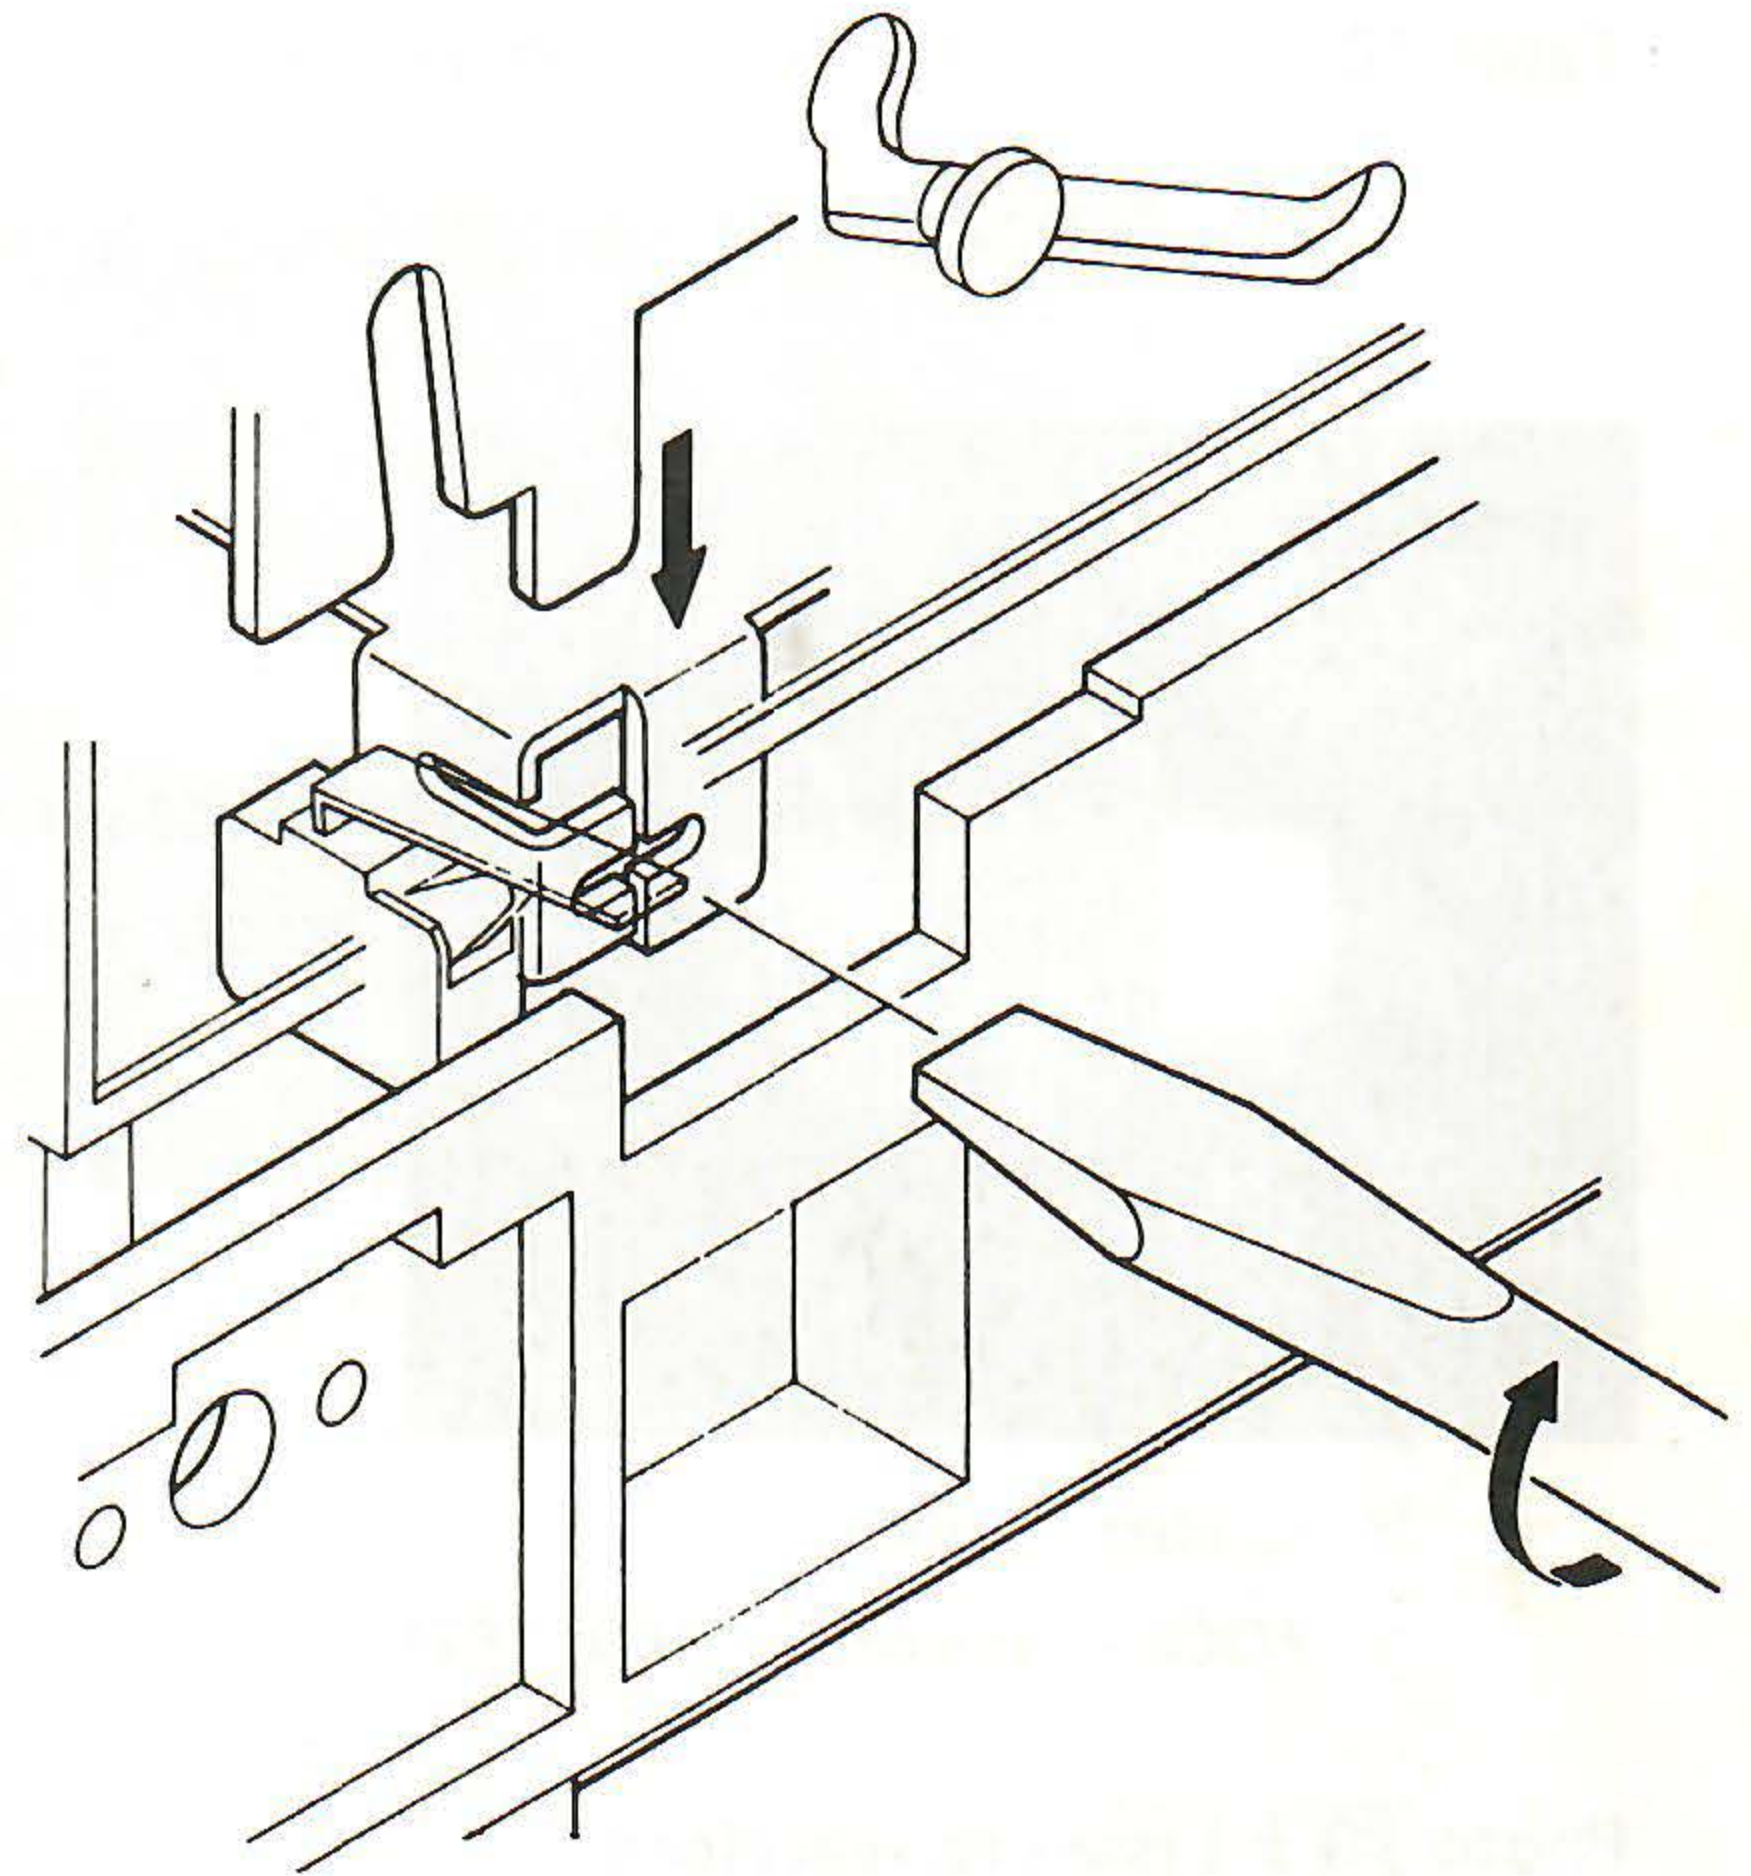

Fig. 10-13 Disc clamp switch position adjustment
2. Insert a screwdriver into the adjustment slit and increase the height of the switch by turning very slightly clockwise. (Fig. 10-13)